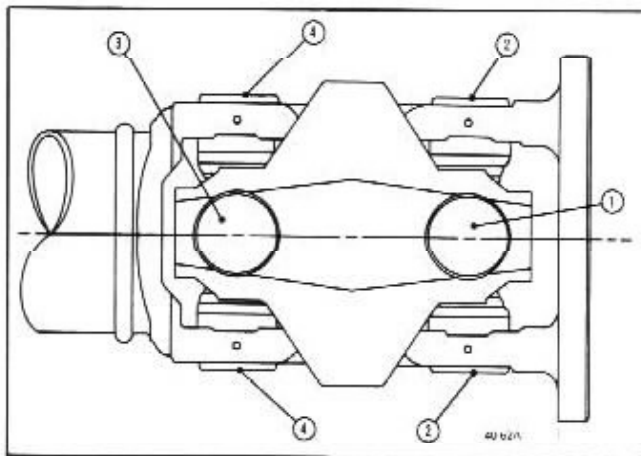

Figure 40-62 Bearing Cap Removal Sequence
1. Support the propeller shaft in a horizontal position in line with the base plate of a hydraulic press. The bearing cups should be removed in the order indicated in Figure 40-62. This method requires the least work to get to the heart of the centering ball system where the most critical inspection should be made so that the correct service method can be determined.